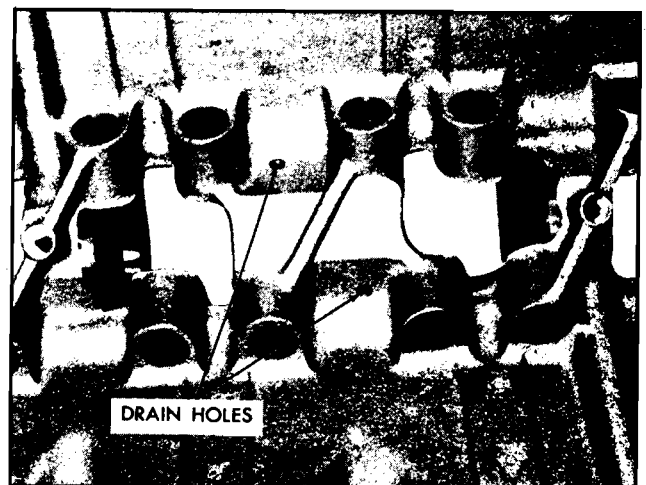

Fig. 6-127 Drain Holes in Lifter Gallery
7. Use wire to check two drain holes in lifter gallery (Fig. 6-127).